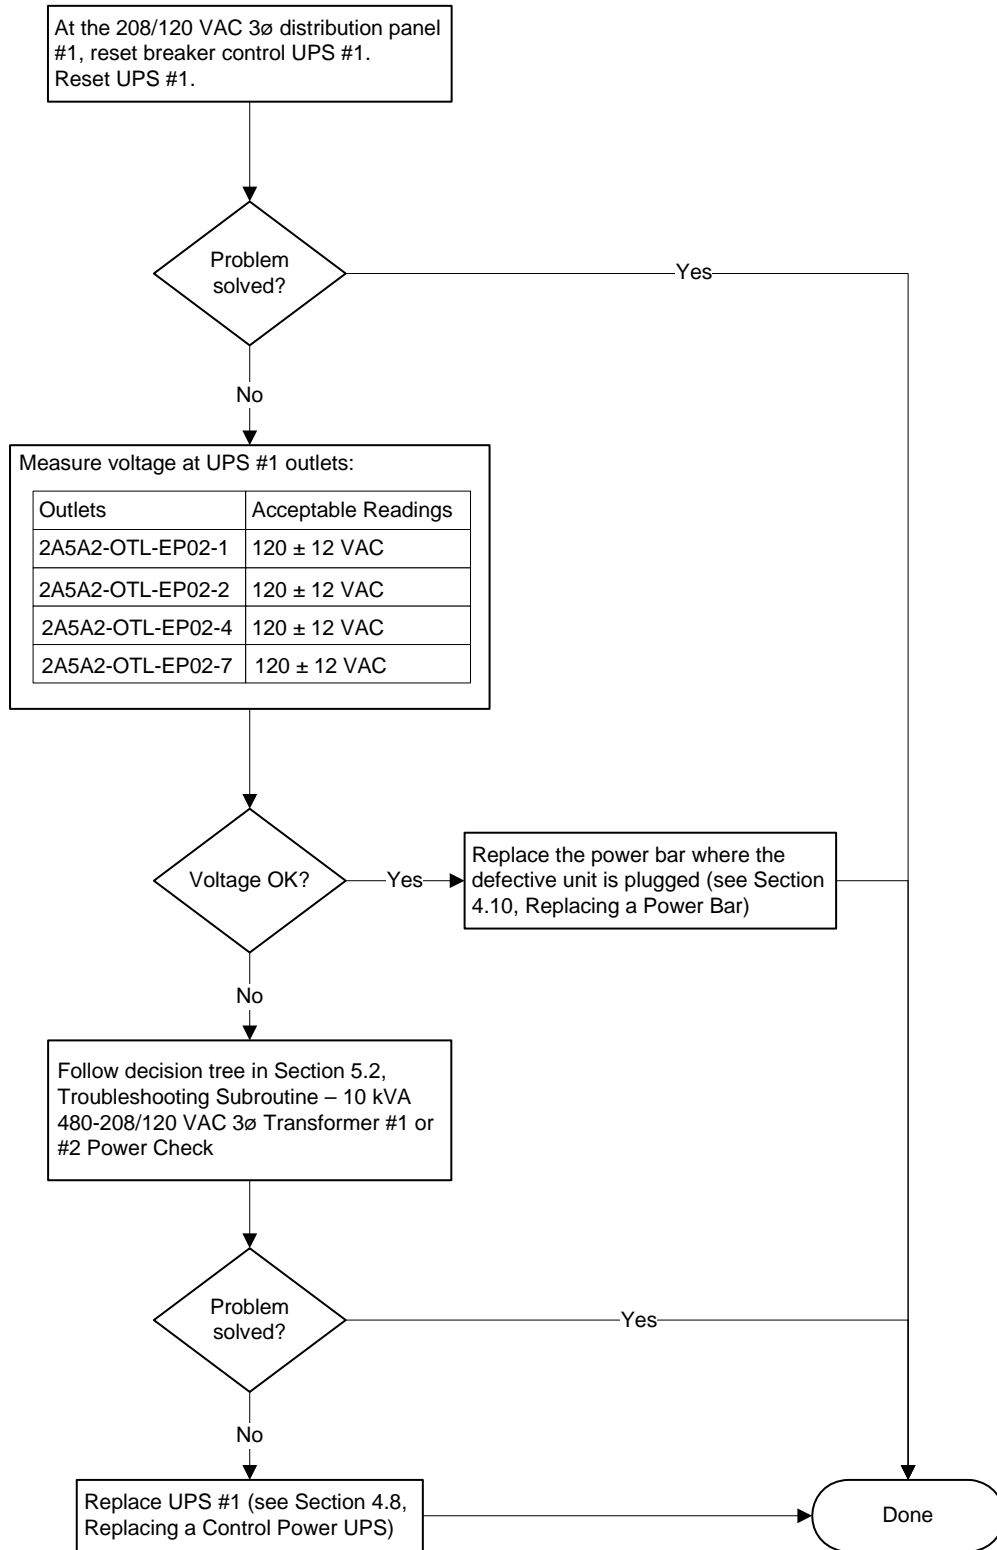

Figure 5 Troubleshooting – Unit Plugged in UPS #1 Doesn't Work
1. Follow the troubleshooting steps in Figure 5.